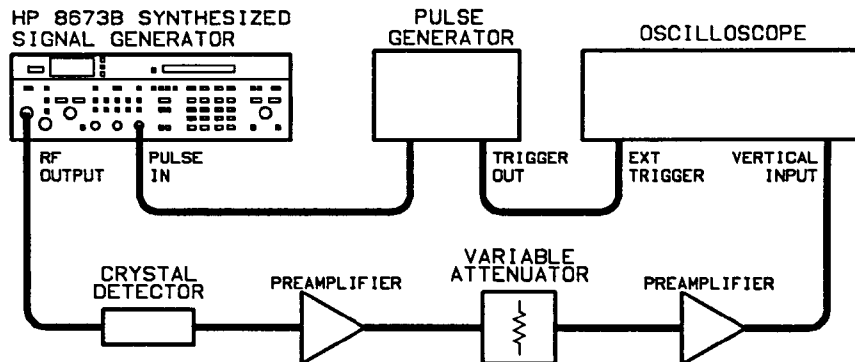

Figure 5-47. Pulse Amplitude Control Adjustment Test Setup
2. Connect the equipment as shown in figure 5-47.